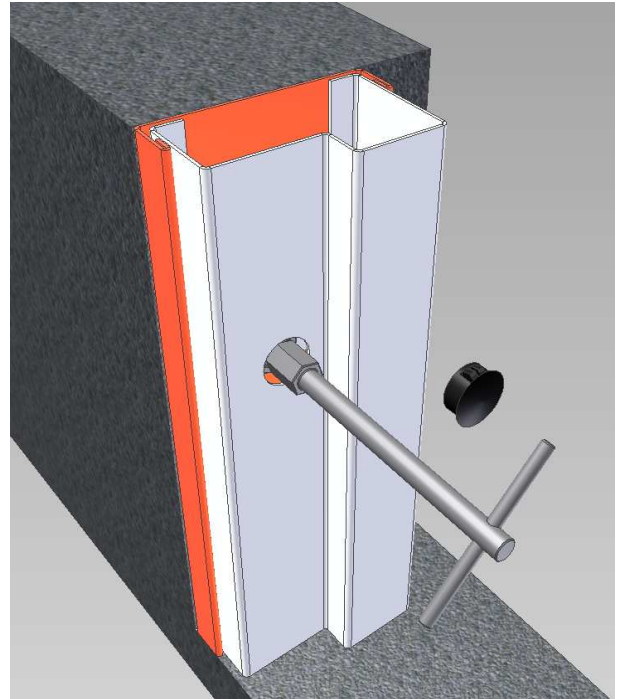

Fig 5
- 4, Adjust the frame /door if required to ensure equal gaps between the door leaf and frame, ensure all ironmongery functions correctly. Fig 5